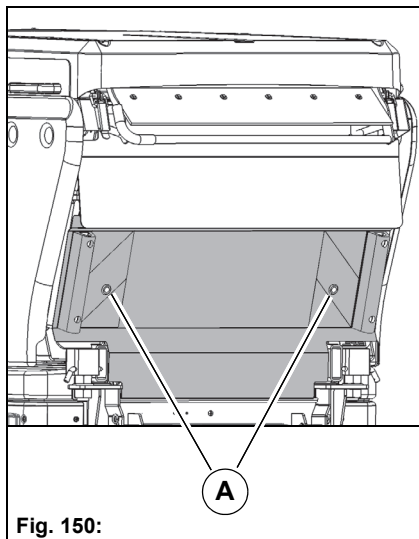

Fig. 150:
1. Start the vehicle and drive to the work site. Engage the parking brake. Open the flap **Fig. 150-A**.